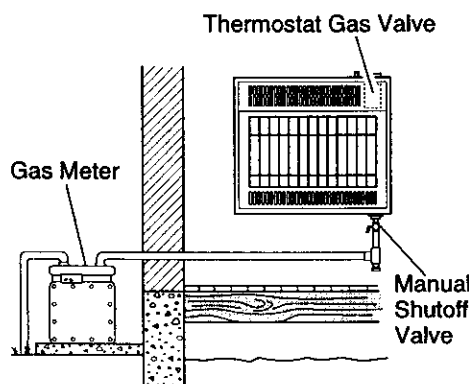

Figure 15 - Checking Gas Joints
3. Check all joints from gas meter to manual shutoff valve (see Figure 15). Apply mixture of liquid soap and water to gas joints. Bubbles forming show a leak.
4. Check all joints from manual shutoff valve to thermostat gas valve (see Figure 15). Apply mixture of liquid soap and water to gas joints. Bubbles forming show a leak.